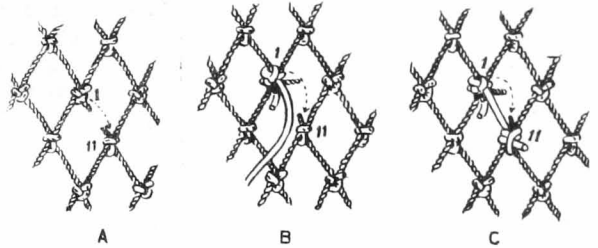
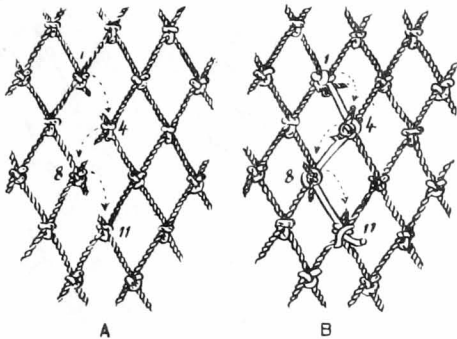

FIG. 19 - SIMPLE TEAR
FIG. 20 - TEAR ON THE SIDERS
In repairing damage to a net, there must be a definite starting point and a finishing point, both of which must be three-leggers. Figure 19-A shows a simple tear with only two three-leggers, which become the starter three-legger (1), and the finishing three-legger (11). Figure 19-B shows the starter knot completed and Figure 19-C shows the finishing knot with the damage repaired. Figure 20-A illustrates a tear known as "tear on the siders." Here, in addition to the starter three-legger (1) and the finishing three-legger (11), is "sider on the right" (4) and "sider on the left" (8). Figure 20-B shows the damage mended. Sider knots are very important as a signal to reverse the direction of shuttling on the mending procedure. Often when mending badly damaged nets where the netting has been under severe strain, the knots become deformed and hard to recognize. It is then good policy to cut the knot open to find out whether it is a mesh knot or sider. Sider signifies the end of the row.